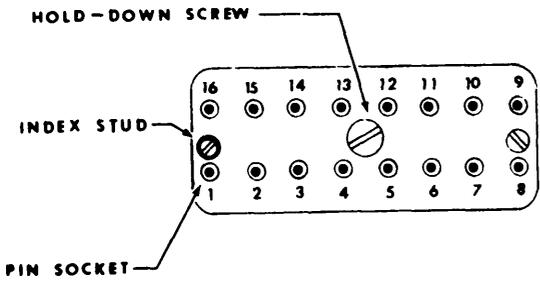

Figure 5-2. Module Pin Numbering
**MODULE PIN NUMBERING SYSTEM** – The module pins are numbered as shown in Figure 5-2. The off-center index stud prevents the module's being plugged in backwards, and also provides a method for locating pin 1.